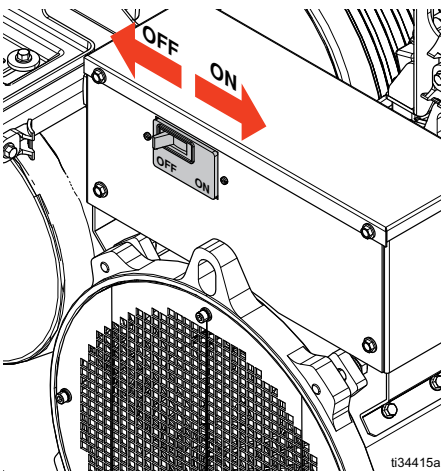

FIG. 26: 90 A Circuit Breaker in OFF Position
6. Turn the main 90 A circuit breaker on the alternator to ON. See FIG. 26.